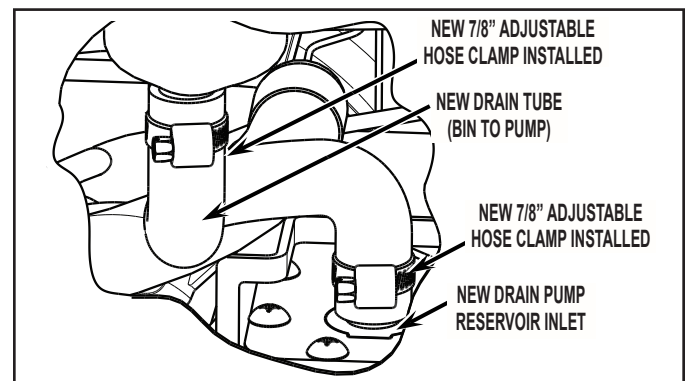

FIGURE 4
3. Install new drain tube to pump reservoir inlet using new adjustable clamps. See *Figure 4*.
8. Connect drain tube to ice maker bin outlet (5/8" ID), using 7/8" adjustable clamp, supplied. See Figure 4.